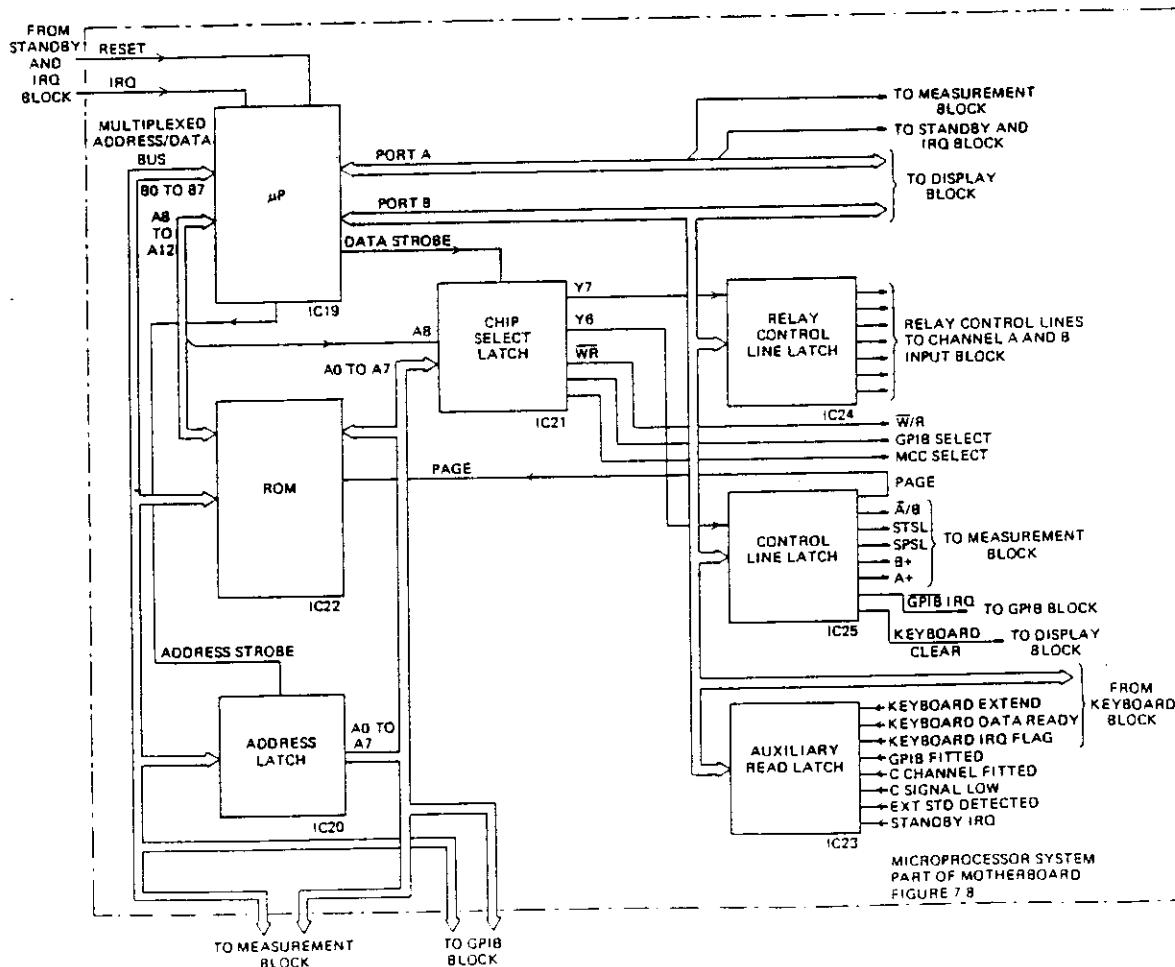

Figure 5.8 – Microprocessor-Block Diagram
5.3.6.1.1 A simplified diagram of the microprocessor block is given in Figure 5.8. The microprocessor used has a 5-bit bus for the high-order address bits and an 8-bit multiplexed bus which is used for the low-order address bits and for data. The low-order address bits are strobed into the address latch, which holds them on an 8-bit address bus, to free the multiplexed bus for data.